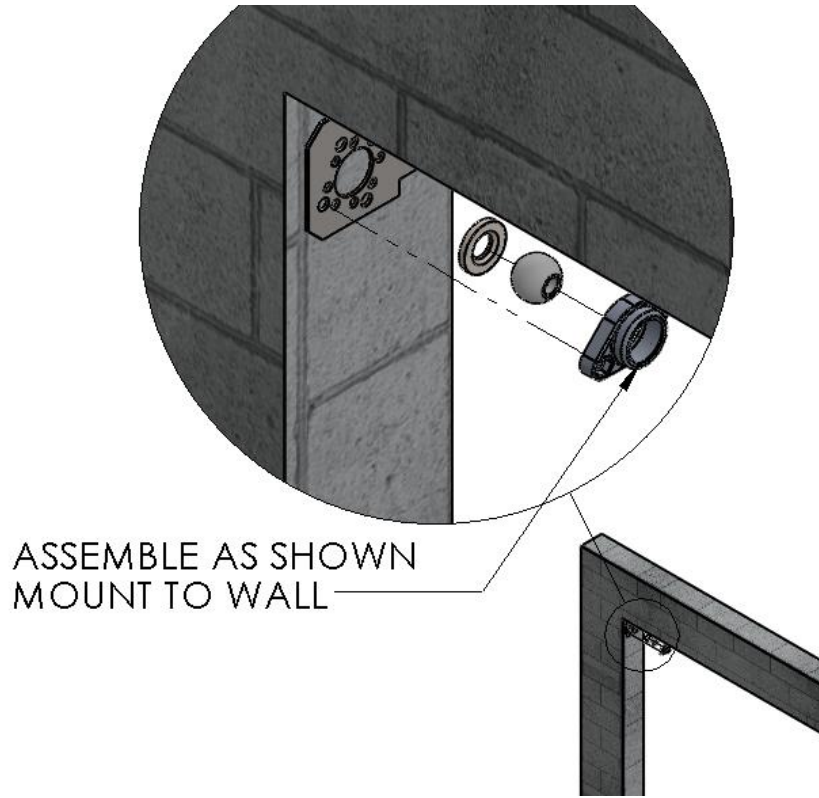

Figure 3 INSTALL HEADER BRACKET AND IDLER ASSEMBLY
2. Insert your Wall Mounting Hardware through Idler Bearing assembly (3 pieces), and through the L.H. Header Mounting Bracket, into the Mounting Surface. (Figure 3 INSTALL HEADER BRACKET AND IDLER ASSEMBLY)